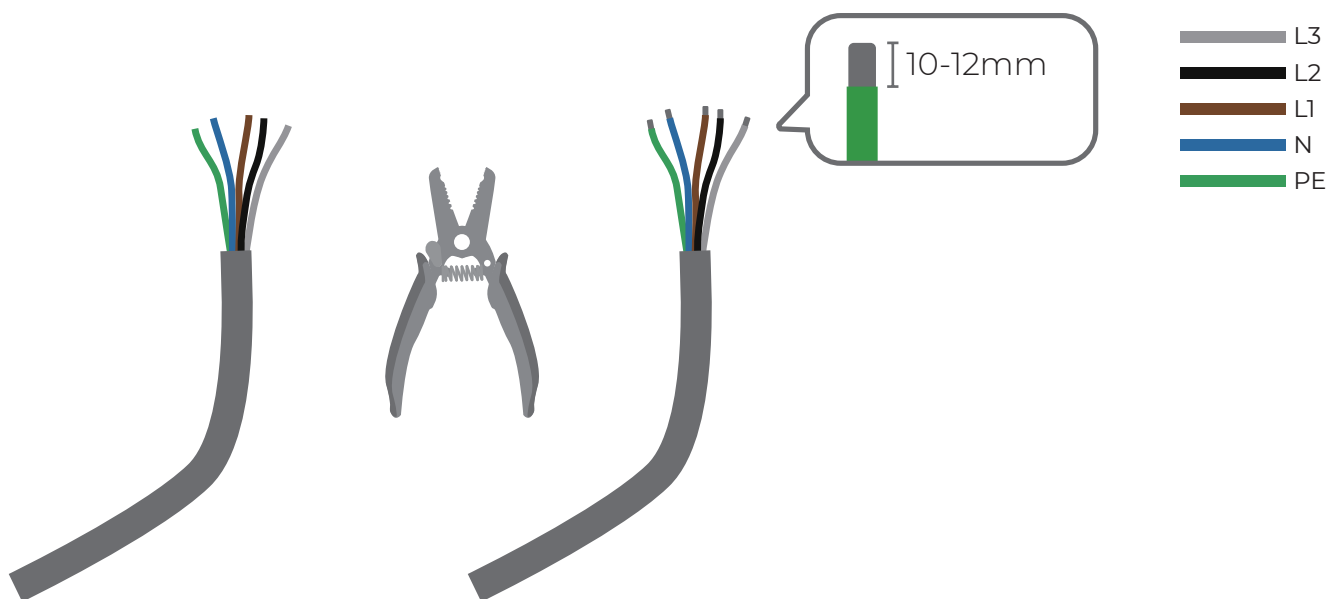

Fig. 5.5.3
3. Use a wire stripper to remove 10~12 mm of insulation from the wire conductor. (See Fig.5.5.3)